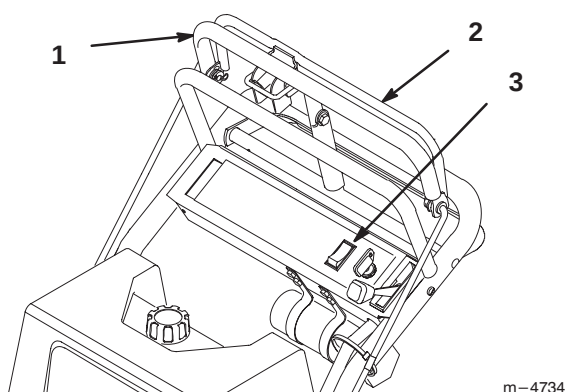

Figure 15
1. Pull on the upper control bar to stop the machine (Fig. 15).
1. Releasing blade control bail to disengage blades (PTO) (Fig. 15).
2. Or push the blade control switch (PTO) to the "OFF" position (Fig. 15).